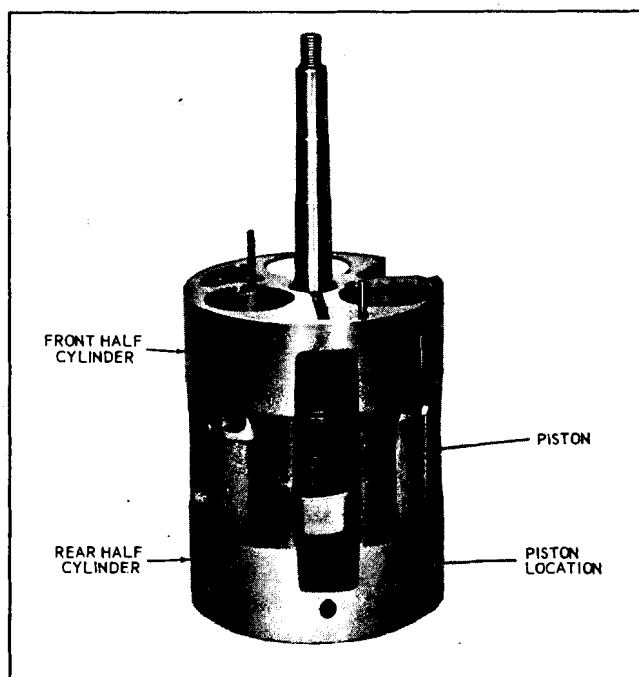

Fig. 1A-22 Pistons and Cylinder
1. Number pistons (1, 2 and 3) and their bores so parts can be replaced in their original locations (Fig. 1A-22).
2. Turn compressor shaft to position swash plate towards front of compressor in area of discharge crossover tube. Using J 9492, drive discharge crossover tube out of rear head assembly toward front of compressor or use a wooden block as shown in Fig. 1A-23. Use care so that discharge crossover tube is not damaged by swash plate.